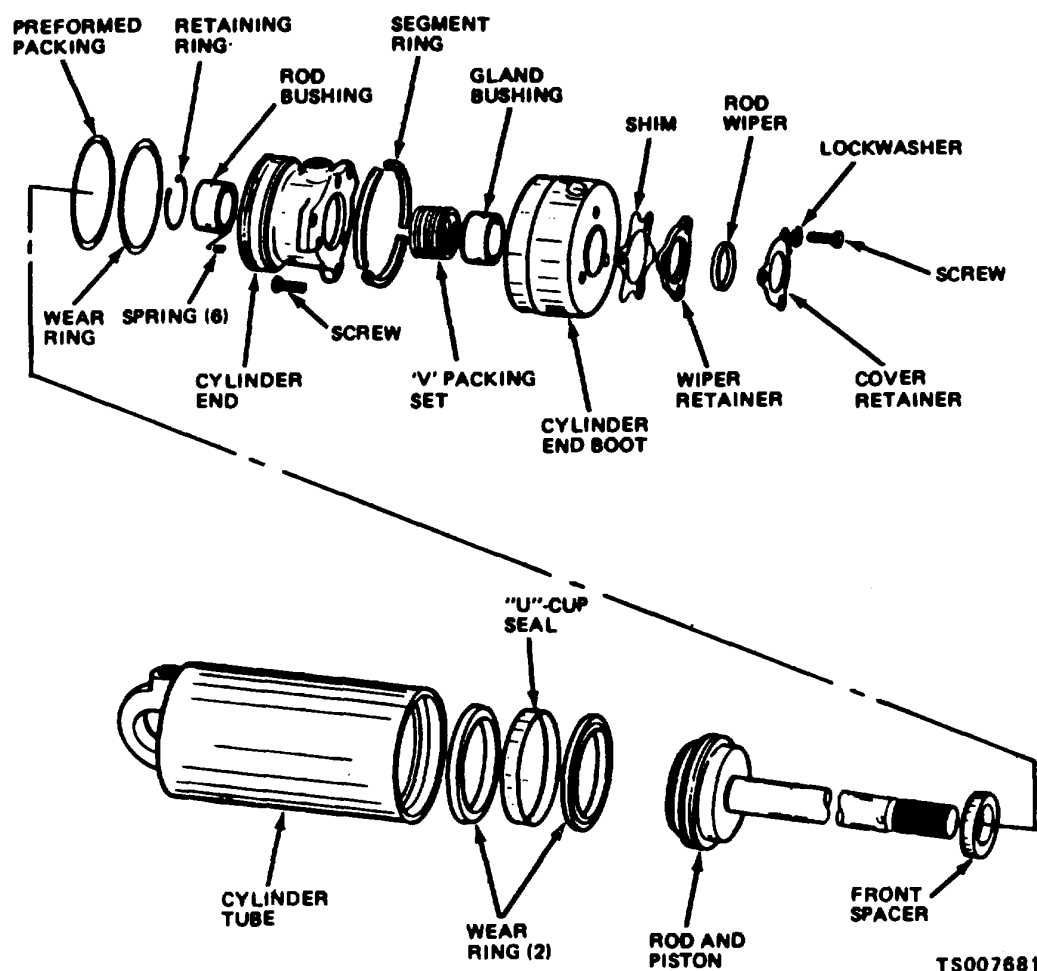

Figure 4-8. Tilt Cylinder, Disassembly and Reassembly
- (1) Disassemble the tilt cylinder as shown in figure 4-8.
(1) Reassemble the tilt cylinder as shown in figure 4-8.